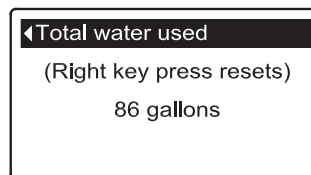

FIG. 121
6. The **Total water used** screen (See Figure 121) shows the volume of water used since it was last reset (it works like the trip odometer in a car). To reset the value to 0, press the RIGHT (►) button while this screen is displayed.